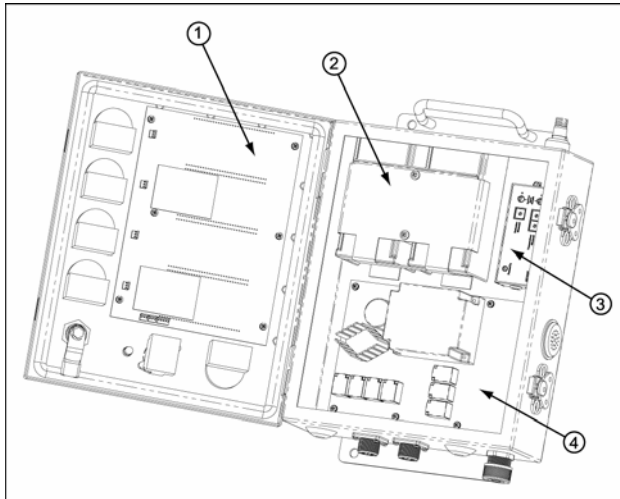

Figure 2. Internal Components
- Figure 2 and Table 3 describe the controller's main internal components.